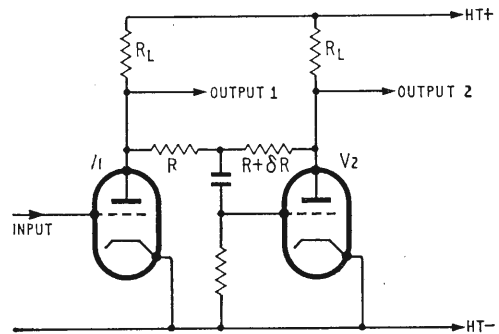
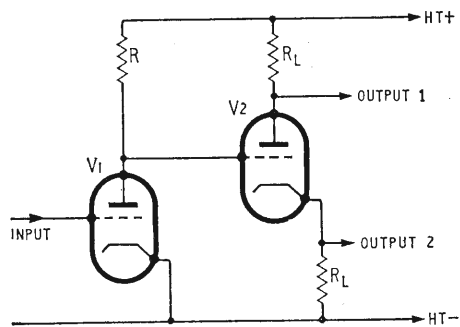

Fig. 2. Basic circuit of "floating" paraphase phase-splitter.
Fig. 3. Basic circuit of direct-coupled concertina phase-splitter.
The second requirement is that the output-impedances from both halves of the phase-splitter should be approximately equal. The reason for this is nothing like so obvious at first sight. In fact there are two reasons for this requirement. The first is that severe grid-blocking can occur if the amplifier is accidentally over-driven (ref. 1). This can be overcome by using high-value grid stoppers but this gives an additional high-frequency time-constant due to the input capacitance of the following stage. As will be mentioned later, this gives a very undesirable tendency to h.f. oscillation when high values of negative-feedback are applied. The second disadvantage is that the drive to the two output valves may unbalance severely at high frequencies due to the different time-constants produced. This will have the effect of severely limiting the h.f. power available and will also increase the h.f. distortion. The two circuits that suffer from this drawback are the floating paraphase (Fig. 2) and the concertina (Fig. 3). In both circuits the valve loads that drive the output